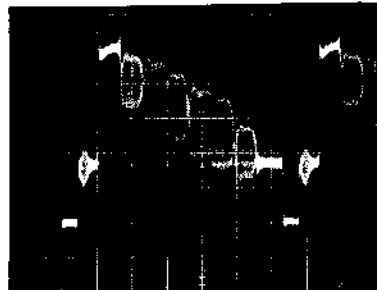

Fig. 25
- Adjust the amplitude of the signal on TPVO to 1.0 ± 0.05 Vp.p. (when terminated with 75 ohm or 2.0 ± 0.1 Vp.p. when unterminated) with R301 in the Luminance section of PI01 CBA (Fig. 25).